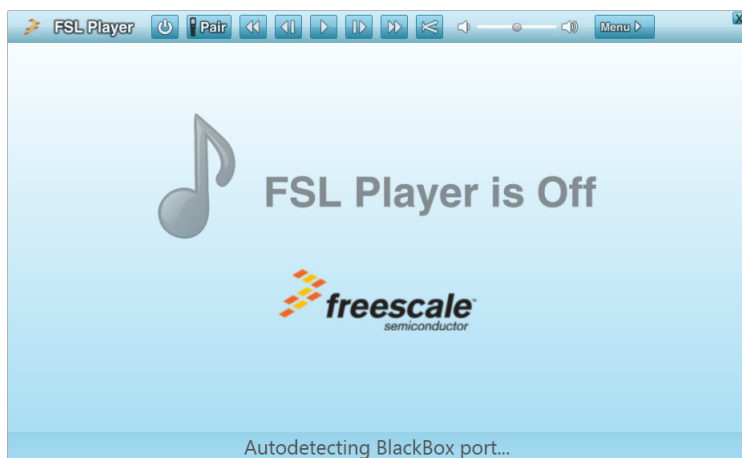

Figure 14. HECA Audio Player GUI View
3. From the HECA toolbar view click the MP3 Player option. Wait until the MP3 Player view appears as shown in Figure 14.
8. When the pairing is established, both the 1323x-RCM LCD and the MP3/Audio Player GUI shows corresponding status messages as shown in Figure 14. The LCD displays the current status of the TV: “FSL MP3 is off” and the GUI shows the message: “Pairing success”.